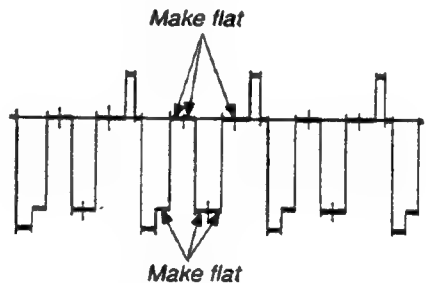

Fig. 6-2
- Adjust RV21 of BG board so that the output waveform becomes flat. (Fig. 6-2)